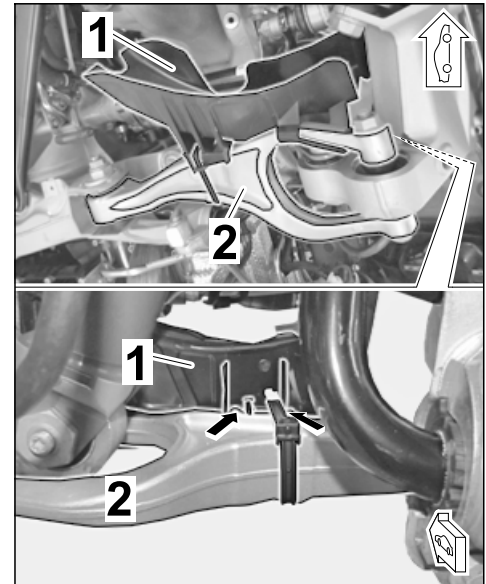

Figure 20
- Position new rear-axle trailing arm spoiler on the humps (⇒ *Figure 20 -arrows-*) on the lower transverse control arm (at the left/right).